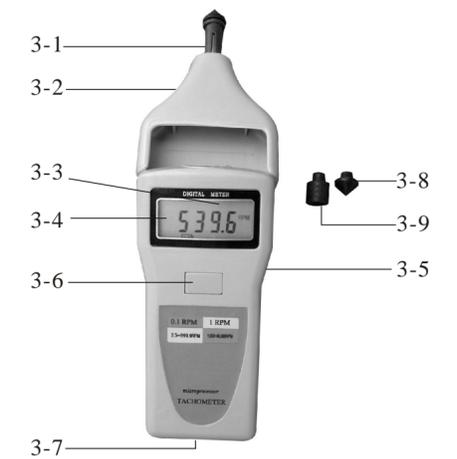

Fig. 1
- (1) When it is necessary to replace the battery, i.e. battery voltage less than approx. 5v, symbol “” will appear on the Display.
- (2) Slide the battery cover (Fig.1,3-7) away from the instrument and remove the batteries
- (3) Install the batteries (4x1.5VAA / UM-3) correctly into the case.
6-1 Slide the Photo/Contact Converter (Fig.1, 3-2) onto the top of Photo Tach.
6-2 Depress the MEASURE BUTTON (Fig.1,3-5) and lightly pressing the rotating ring (Fig.1,3-1) against the center hole on the rotating hole. Release the MEASURE BUTTON when the reading stabilizes (approx. 2 seconds)
Apply a reflective mark to the object being measured. Depress the MEASURE BUTTON (Fig. 1,3-5) and align the visible light beam with the applied target, verify that the MONITOR INDICATOR (Fig.1,3-3) lights when the target aligns with the beam (about 1 to 2 seconds.)